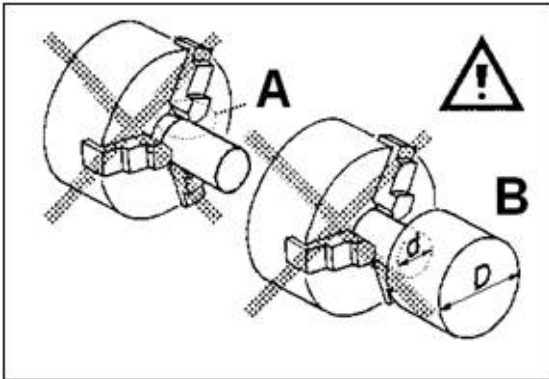

Fig 10
Avoid short clamping contact (A, Fig 10) or clamping on a minor part diameter (B).